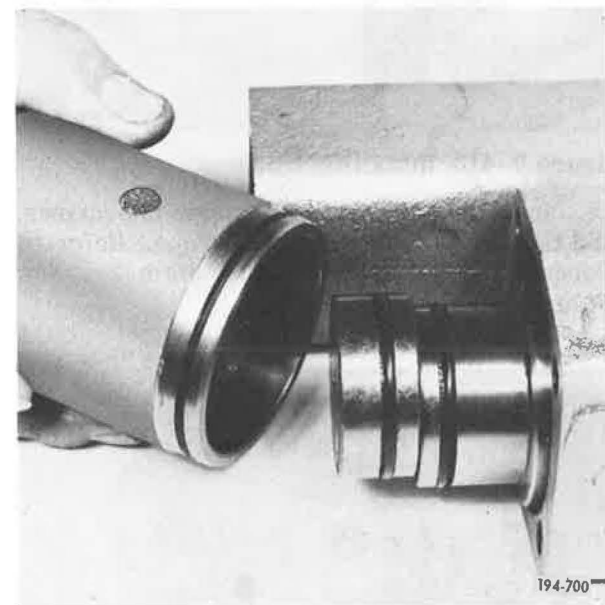

Figure 5-414. Installing Shift Cylinder
12. Install Lo/Direct shift cylinder onto shift cover, by sliding it over the end of the Lo/Direct shift rail. See Figure 5-414.